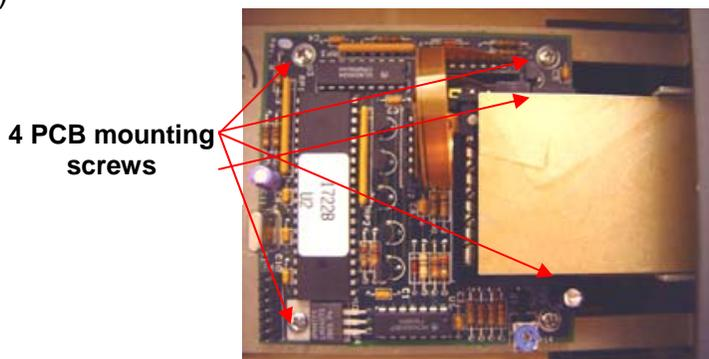

Fig. 2
5. Remove the 4 PCB mounting screws and set aside for reinstallation. (see Fig. 2)